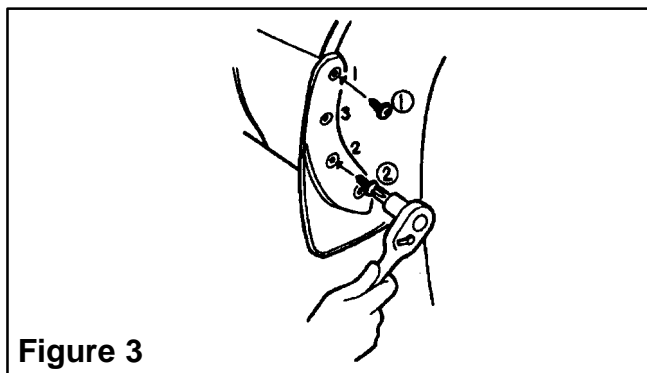

Figure 3
3. Remove the antenna assembly and inspect the inner fender around the antenna hole for corrosion. Clean with 1500 grit sandpaper (Fig. 3).
6. Avoid inserting a cassette into the player if the cassette label is loose or peeling as shown in figure 3. This can cause a cassette to become stuck in the player.
3. Re-using screws 1 and 2, install the mudguard at points 1 and 2, while holding the mudguard against body to ensure proper fit and tighten down screws (See Figure 3).